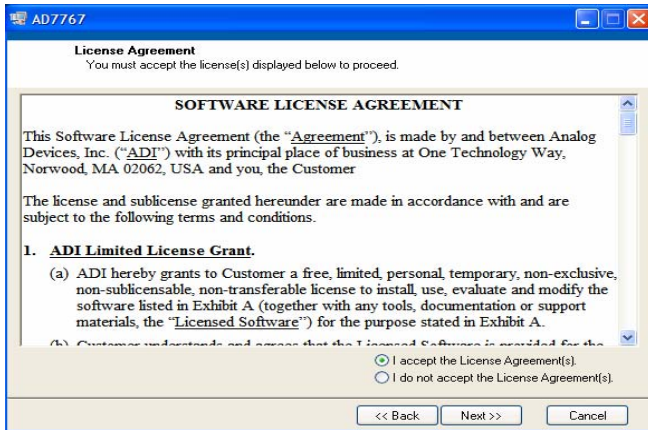

Figure 4. AD7767/-1/-2 Evaluation software install 3.
- 3) Accept the license agreement by selecting the correct option and clicking “Next” as shown in Figure 4.
- 5) On completion of the installation, the window as shown in figure 4 is displayed.